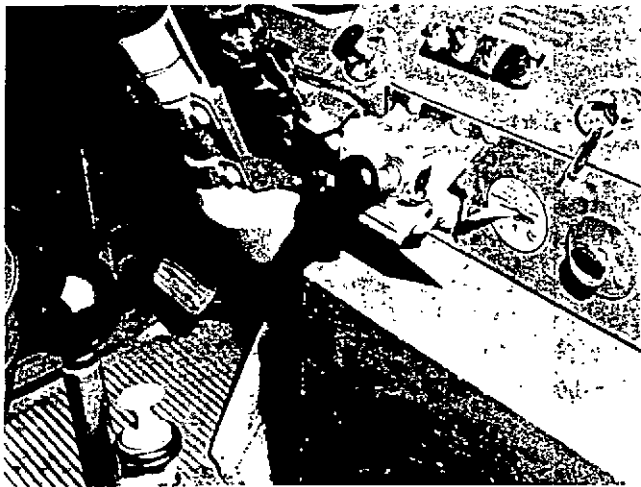

Fig. 2-11, N11833. Dash control in down position
6. Place cab dash control in "DOWN" (Compressor) position; engine is now operating as compressor, Fig. 2-11. If air from blow-down valve contains smoke after one minute of operation, check fuel line valves to compressor cylinders to make sure they are operating correctly.